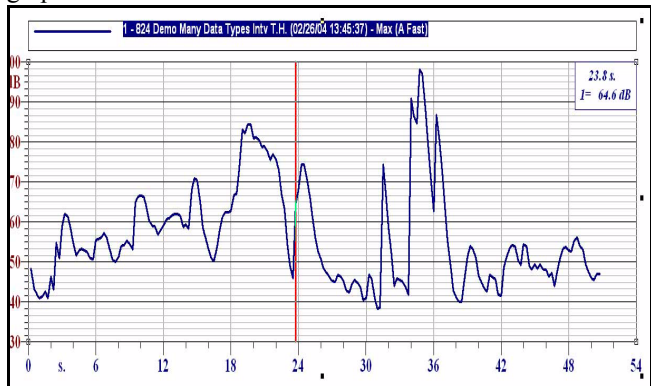

FIGURE 6-1 Time History, Max (A Fast)
Left click **File/Open**, highlight the document **824 Spectra, Time History, Intervals** from the Demo Data Folder and left click **Open** to open a document containing that measurement. Next, left click **Insert/Graph Template**, select the **Time History Data Block (TH)** and insert the Template “**Time-History**” from the Folder 824_ssa. Left click **Next**, then **Finish** to produce the graph of Max (A Fast) shown in FIGURE 6-1 . It may be necessary to Autoscale the horizontal and vertical axes to obtain the same graph.
This graph gives some insight into the time response of the different detectors. The rise time and decay rates for these detectors are very different, as shown in Figure 6-1.
The rise time of the peak detector is extremely fast, so its curve will respond immediately to even the shortest impulsive sound, such as a bursting balloon, gunshot or hand clap. Compared to that, the rise time of the Fast, Slow and Impulse detectors are relatively slow. An examination of the curves in FIGURE 6-1 shows that most of the time, the four curves follow each other in general. Small variations upward do indicate time variations in the measured signal since the peak and Impulse detectors will respond to an increase in level faster than the Fast and Slow detectors. By the nature of its design, however, the Impulse detector decays extremely slowly so decreases in the signal level cannot in general be seen until sufficient time has passed for the Impulse level to decay down to the level of the input signal.